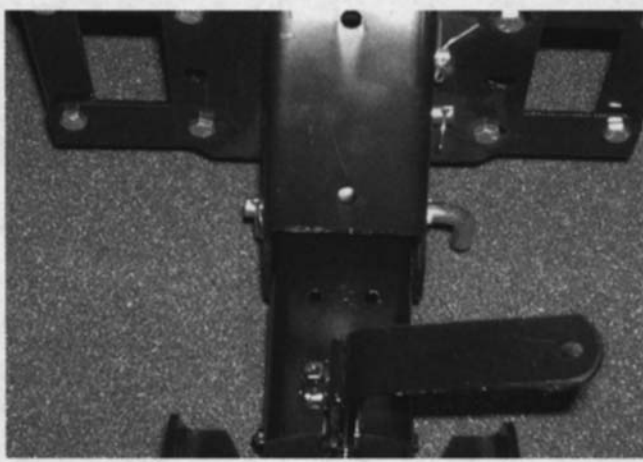

Figure 8-123.
11. Remove the hairpin clip from the lift link pin which is assembled to the pivot support bracket. Insert the end of the lower lift handle assembly through the notch in the pivot support bracket and through the holes in the channel. Align the lift link pin with the hole in the welded bracket on the lower lift handle assembly. Insert the lift link pin through the hole in the bracket and secure with the hairpin clip. See Figure 8-123.